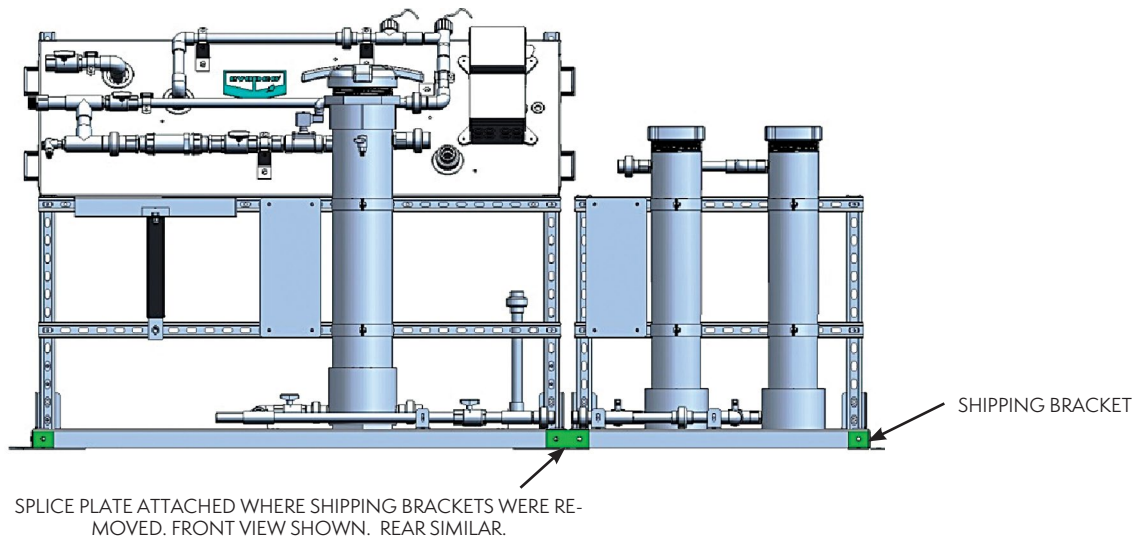

Figure 9 – Attach CRF Module
- 2.11 Connect the **CRF** Module to the right side of the **BCF-NX** Module. It will be necessary to remove shipping brackets to properly join modules. Reuse shipping bracket hardware to attach the supplied splice plates across the front and rear joints between modules. See Figure 9.